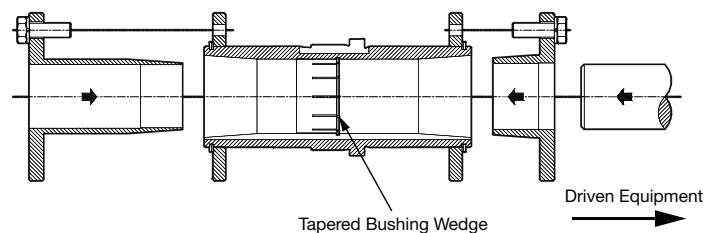

Figure 2 - Short Shaft Bushing and Output Assembly
2. The long bushing is designed to be installed from the side of the reducer opposite the driven equipment as shown in Figure 2. The long bushing when properly installed is designed to capture the end of the customer shaft that does not extend through the reducer. Normally the reducer would be mounted such that the input shaft extends from the side of the reducer opposite the driven equipment however the reducer design allows installation of the reducer to be mounted in the opposite direction.
3. Install the tapered bushing wedge into the hollow bore of the reducer from the same side as the long bushing will be installed. When installing the tapered bushing wedge into the reducer hub, install the flange end first so that the thin taper is pointing outwards towards the long bushing as shown in Figure 2. The wedge is properly installed when it snaps into place in the reducer hub.